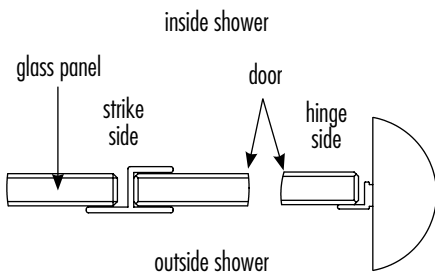

figure 34
12. The L shaped seal goes along the hinge side of the door on the threshold trim pieces (*fig. 34*).